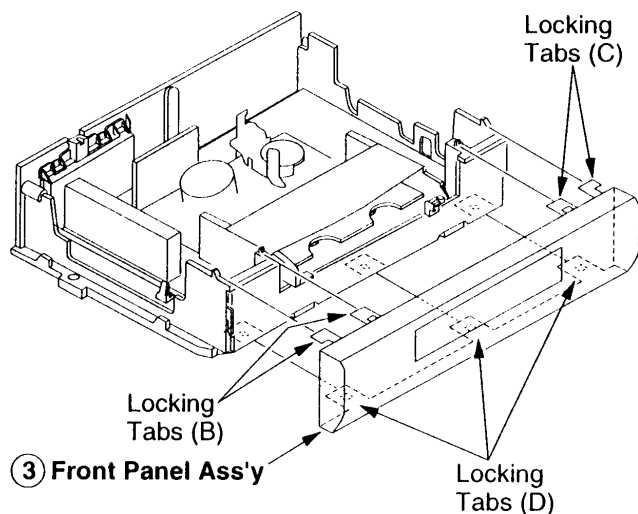

Fig. 4 - Front Panel Assembly Removal
INSTRUMENT DISASSEMBLY (Continued)**Front Panel Assembly Removal (Figs. 4, 5)**
2. Release two (2) locking tabs (B) on the top left (Fig. 4).
3. Release two (2) locking tabs (C) on the top right.
4. Release three (3) locking tabs (D) on the bottom side of the front panel.